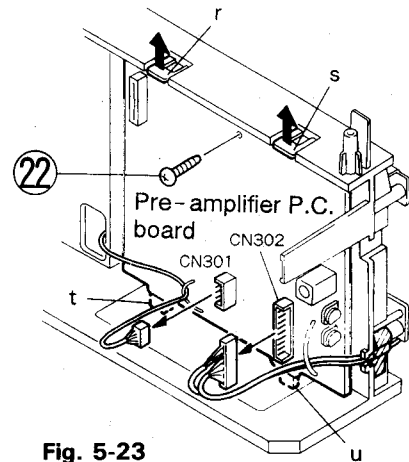

Fig. 5-23
**How to Remove the Pre-amplifier P.C. Board** (Refer to Fig. 5-23)
5. Remove the one screw (22) retaining the pre-amplifier P.C. board.